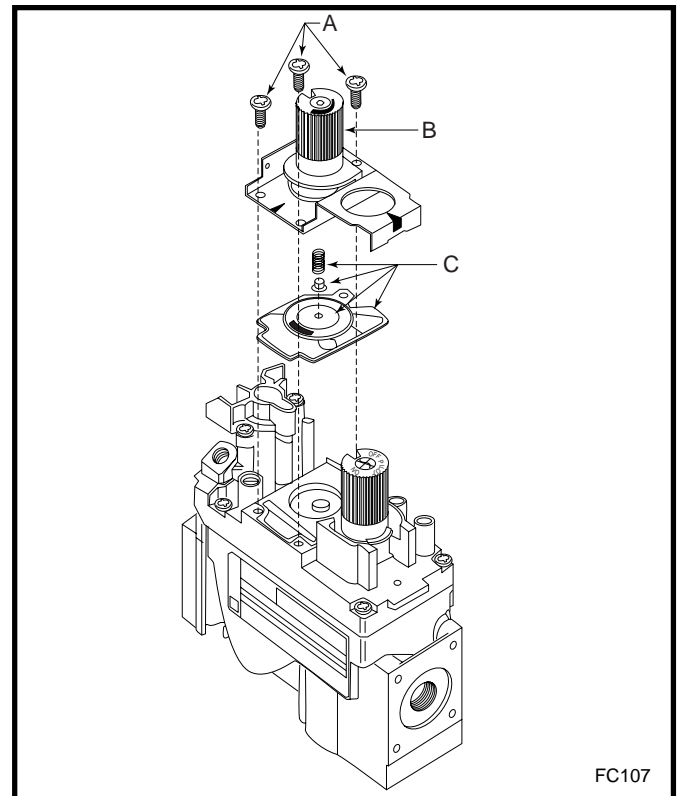

Fig. 47 Remove mounting screws, pressure regulator tower and diaphragm assembly.
9. SIT 820 NOVA Gas Control Valve (Fig. 47)
- a) Using a Torx T20 or slotted screwdriver, remove and save three (3) pressure regulator mounting screws (A), pressure regulator tower (B), and diaphragm (C).
- b) Ensure the rubber gasket (D) is properly positioned and install the new HI/LO pressure regulator to the valve using the new screws (E) supplied with the kit. Tighten the screws securely. (Reference torque: 25 in.lb.)
- c) Install the enclosed identification label (F) to the valve body where it can be easily seen.